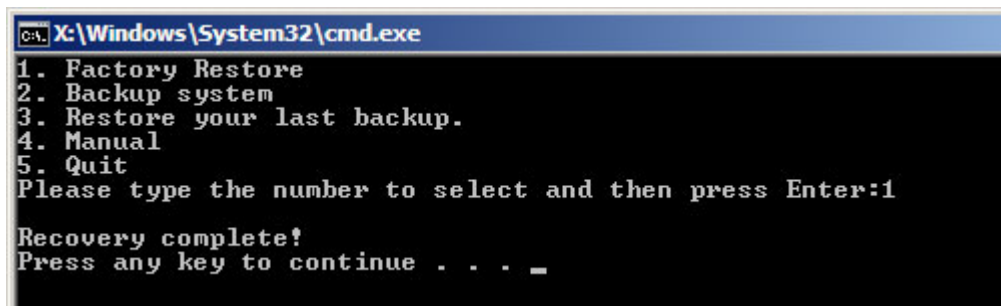

Figure B-25: Recovery Complete Window
Step 3: The screen is shown as in **Figure B-25** when completed. Press any key to reboot the system.